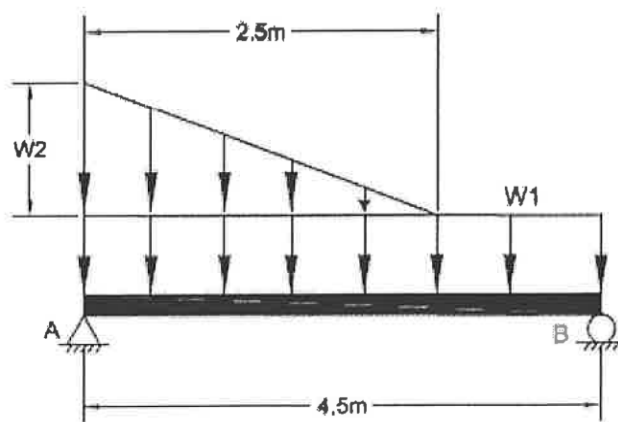

FIGURE 3
- B1. For the beam shown in Figure 3 design a reinforced concrete cross-section which can resist the moment and shear forces which develop. Assume a concrete strength of 25MPa.
- C1. Referring to Figure 3 design a prestressed beam section to resist the defined loading condition. Assume the beam is fabricated by a CSA certified shop, all strands at 1860MPa low relaxation type and the concrete is 40MPa. Define the long-term deflection under dead load.